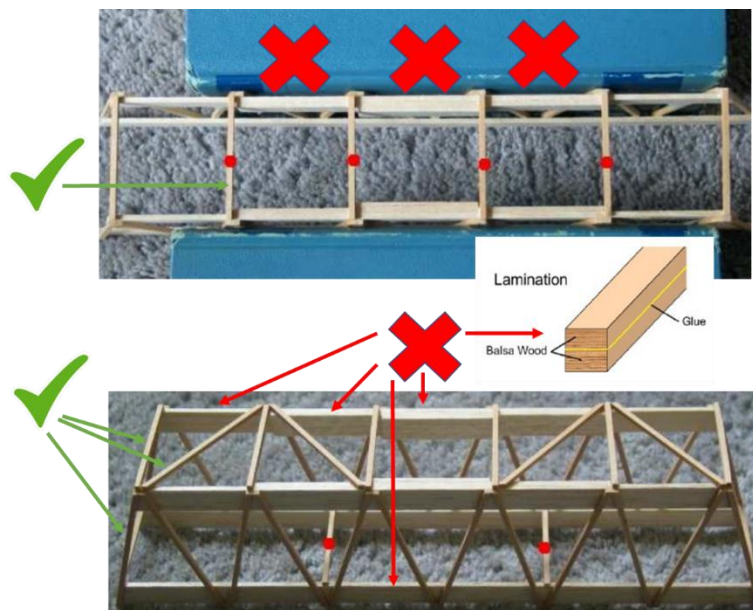

Figure 2: Multiple-ply Laminated Beams are not allowed
- c. The construction of structure members using multiple plies of laminated beams glued together is prohibited as depicted in Figure 2. Nonetheless, joints may have increased thickness to facilitate the connection of wooden pieces in accordance with the guidelines outlined in "Joint Limitation."